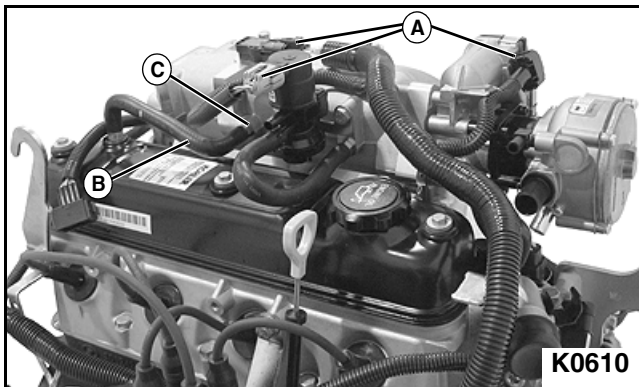

Figure 3-95
1. Disconnect three electrical connectors (A) from intake manifold sensors and set wiring harness aside. **See Figure 3-95.**
2. Disconnect PCV hose (B) from intake manifold port (C). Close all openings.